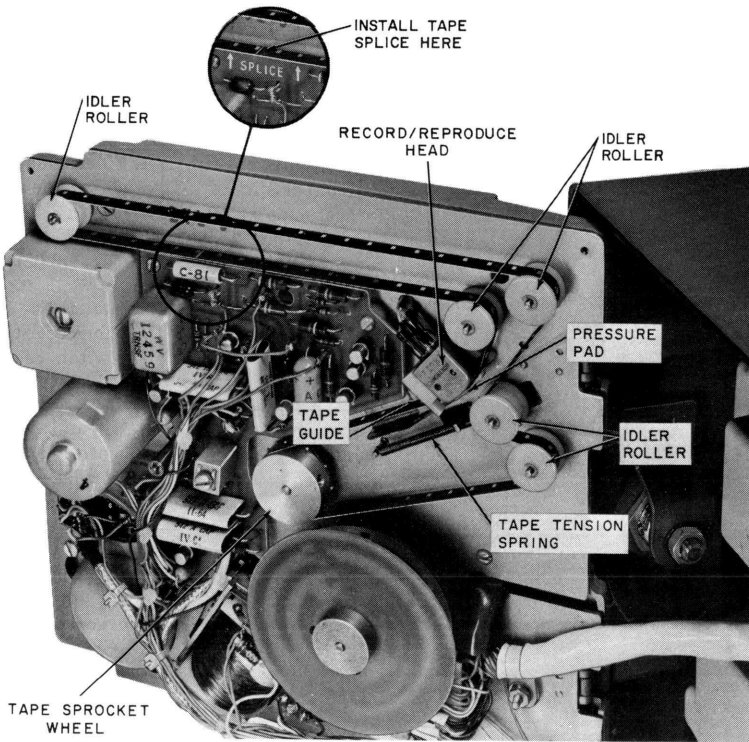

Fig. 12—Details of Tape Installation
- (b) Place the tape around the idler rollers as shown in Fig. 12.
- (d) Position the splice of the tape approximately at the center of capacitor C-81 or between arrows above the word SPLICE (Fig. 12).
- (f) When placing the tape over the face of the record/reproduce head, be careful not to scratch or tear the tape on the square corner of the tape guide (Fig. 12).
- (g) Replace tape tension spring (Fig. 12).